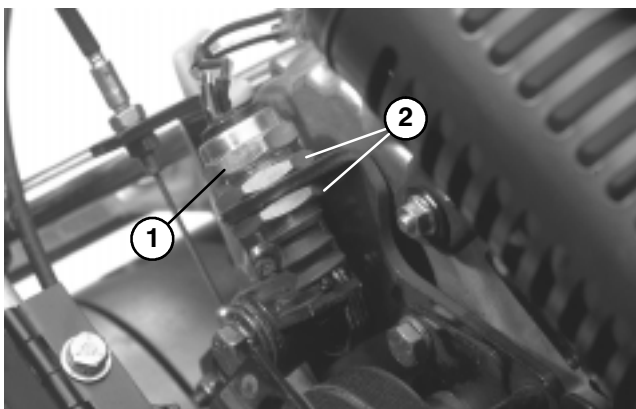

Figure 43
2. Loosen (2) switch mounting nuts (Fig. 43) and move switch until switch plunger is depressed $.18 \pm .06''$ (switch closed).